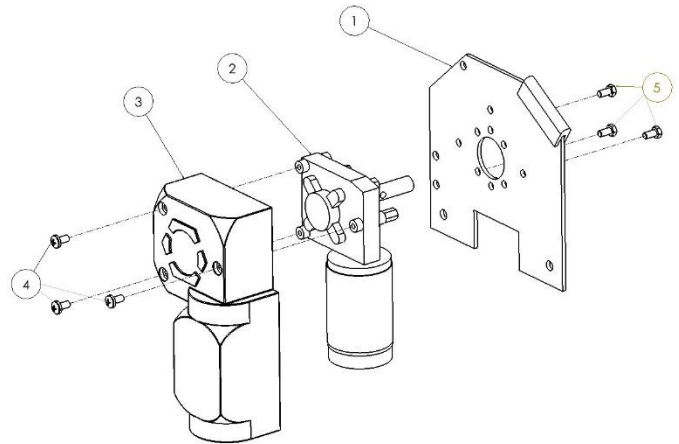

Figure 1.2
Mount the Slim Bulletproof Motor (2) to the tarp spool mounting bracket (1) on the driver's side of the dump box using the three supplied M8-1.25x16mm Hex Bolts (5). Use the three supplied Phillips Drive Pan Head Screws (4) to mount the Chrome Motor Cover (3) to the motor. (Figure 1.2)